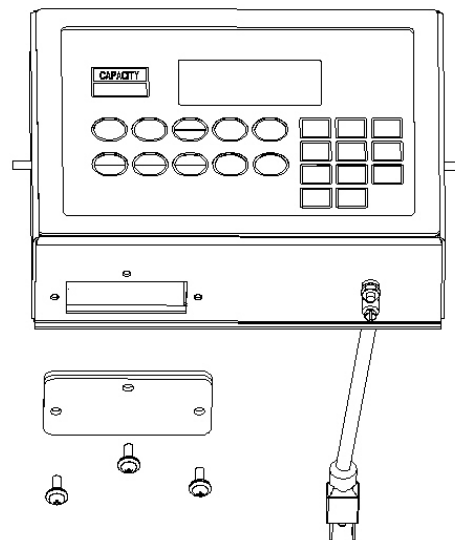

Figure No. 14
The 200 Series Indicator can operate from a readily available Sealed Lead-Acid Camcorder type battery (*not included*). If you wish to operate the indicator from a battery, you must first obtain and install a CAM-350 Type, 12 volt, 2000 mAh (2.0 Ah) battery before operation can begin. The battery is contained inside the instrument and is easy to install. Access is via a removable panel on the bottom side of the indicator (See Figure No. 14). The scale will operate with a "fully charged" battery for approximately 10 hours and is easily recharged with the scale's built-in charger. The battery can be purchased from the Cardinal Scale Parts Department (p/n 6800-0018) or ordered from the following companies online:
4. Slide the battery into the opening, compressing the battery ejector spring, until you feel resistance and the battery is almost flush with the bottom of the indicator (See Figure No. 14).